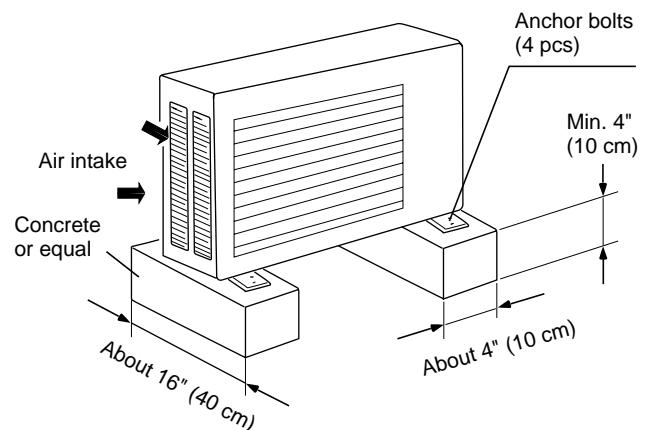

Fig. 5
- provide a solid base (level concrete pad, concrete block, 4 in. × 16 in. (10 × 40 cm) beams or equal), a minimum of 4 in. (10 cm) above ground level to reduce humidity and protect the unit against possible water damage and decreased service life (Fig. 5).